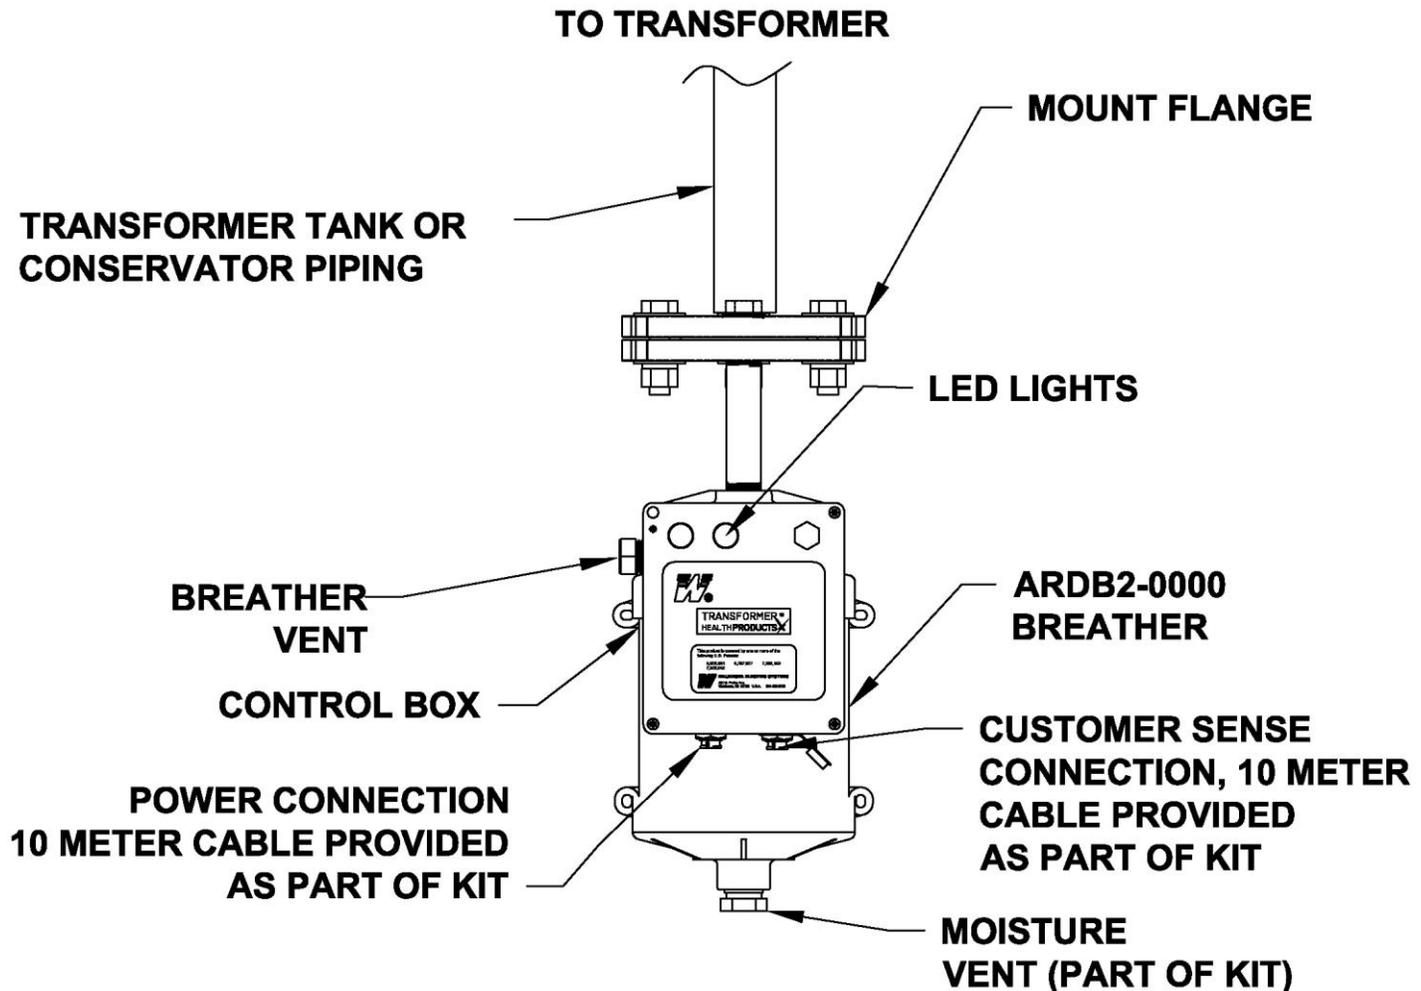

Figure C1 – Typical ARDB2 Flange Installation
- g) See Figure C1 on following page for a typical flange installation.